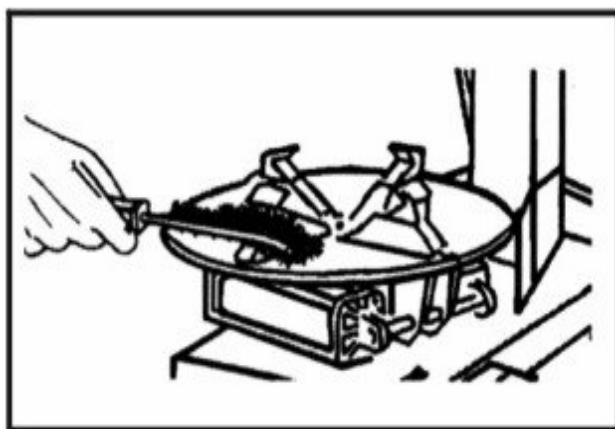

Fig 7
- \*Clean and lubricate all the moving parts of the turntable. (Fig.7)
- (Fig.7)